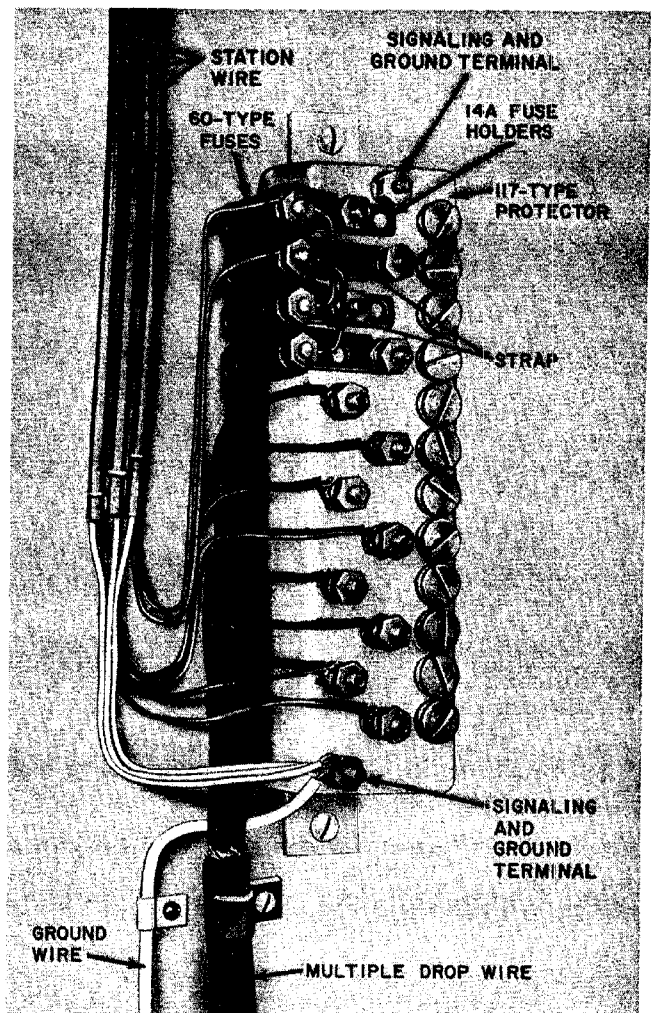

Fig. 24—117-Type Protector Strapped for Battery
7.09 Fig. 24 illustrates two battery feeder pairs terminated at a 117-type protector equipped with 14A Fuse Holders and 60-type fuses. Strap the pairs on the PBX side of the fuses.